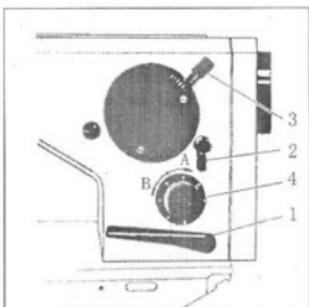
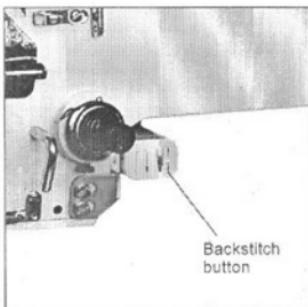

Fig.9
Fig.10
## 19. The stitch length and backstitch adjustment (Fig.9, Fig.10)
- 1) The stitch length can be adjusted by turning the knob (4) provided on the column of the machine arm, from 0 to 5mm. By turning it in the sense of the arrow "A", you increase the stitch length. By turning it in the sense of the arrow "B", you decrease it.
- 2) Depress the backstitch hand lever (1) can proceed backstitch.
- 3) Depress the backstitch button as shown in Fig.10 can proceed backstitch.
## 20. The stitch width adjustment (Fig.9)